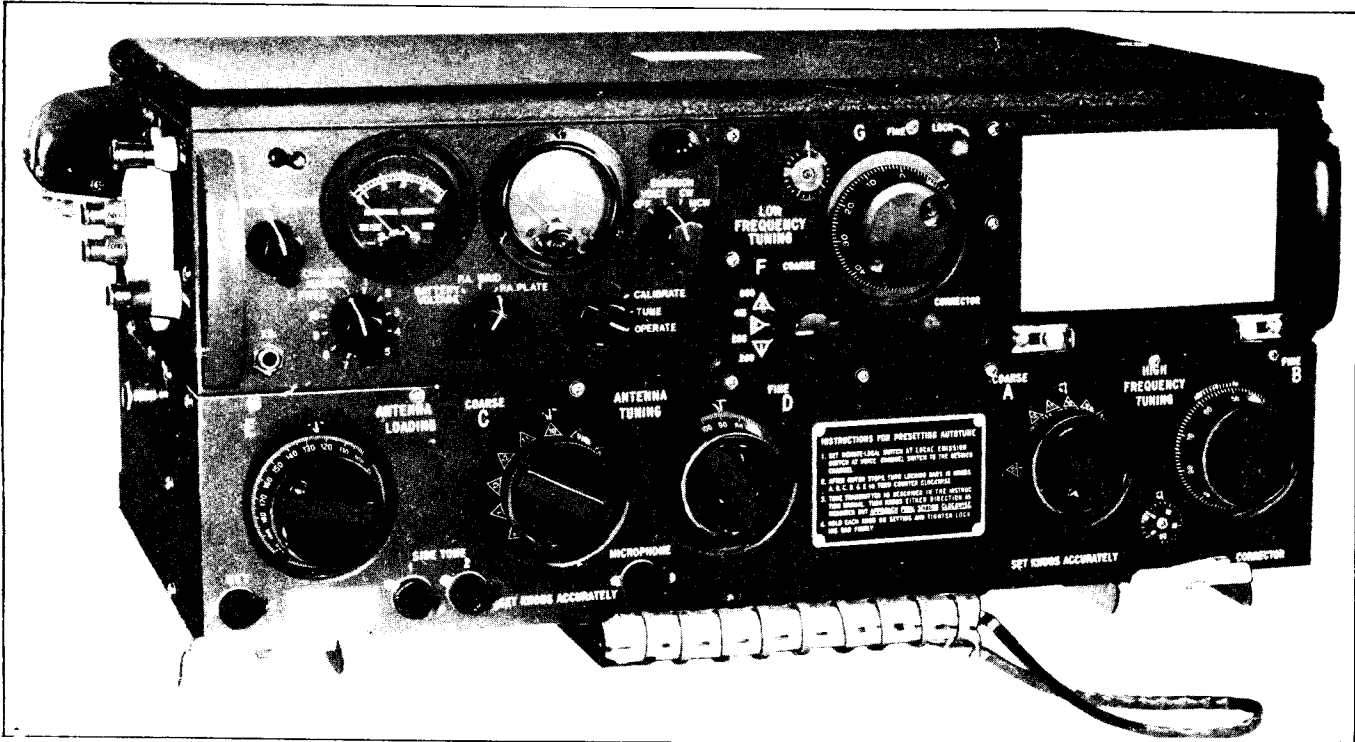

Figure 1-2. Radio Transmitter T-47A/ART-13
(1) TRANSMITTER T-47A/ART-13. Used as the basic unit of Radio Transmitting Set AN/ART-13A, this transmitter (see fig. 1-2) provides variable frequency oscillator (VFO) operation with two bands of transmission frequencies available. Normal frequency range of this unit is 2000 kc. through 18,100 kc. Output may be obtained in the low frequency range of 200 kc. to 600 kc. by using Oscillator O-17/ART-13A which is not a part of the transmitter but may be installed upon removal of Panel MX-128/ART-13.